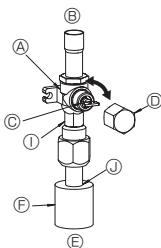

Fig. 4-6
(1) Gas side (Fig. 4-6)
① Remove the cap, pull the handle toward you and rotate 1/4 turn in a counterclockwise direction to open.
② Make sure that the stop valve is open completely, push in the handle and rotate the cap back to its original position.